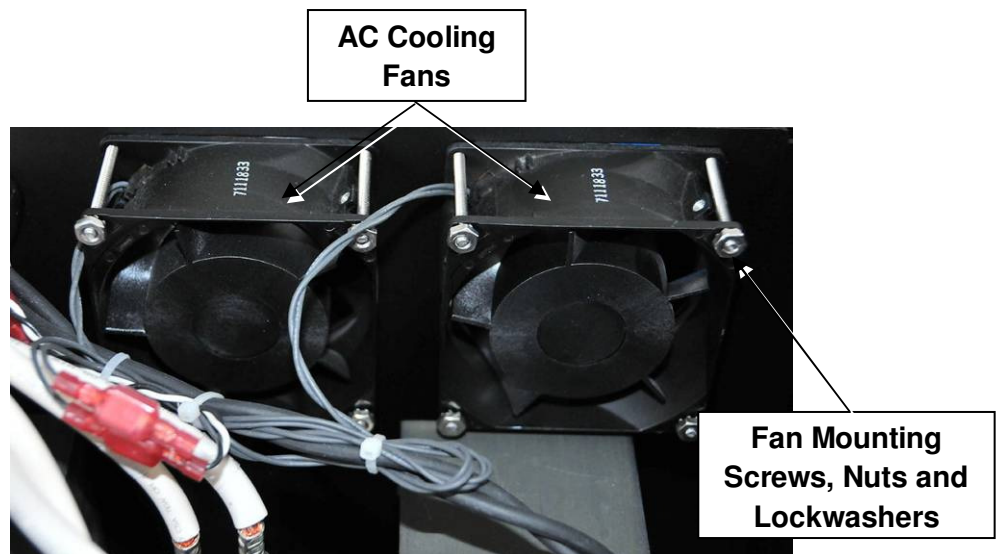

Figure 20: Replacing AC Cooling Fans from Divider plate
- Remove the four (4), #6-32 x 1-3/4" mounting screws, nuts and lockwashers that retain each fan to the divider plate, and remove fan, see Figure 20.